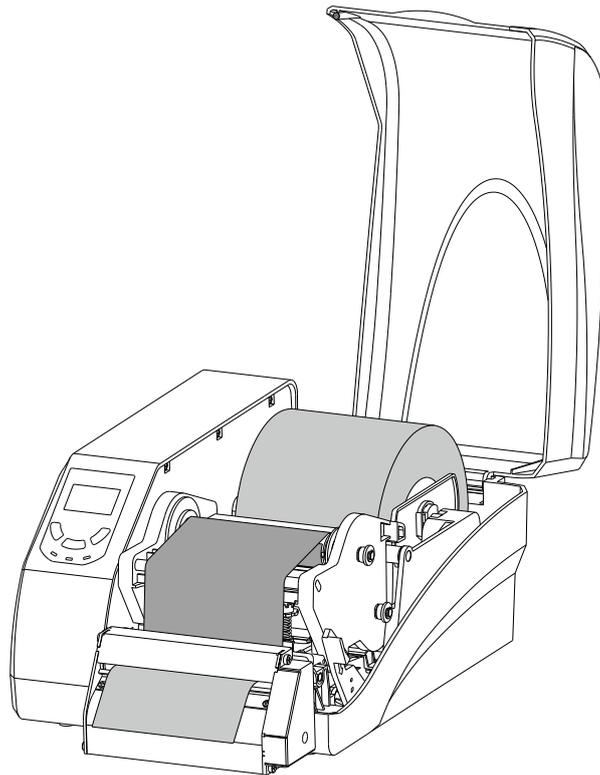

Figure 3-2 Cutter Mode
6. Turn off the printer. Load the ribbon and media in the order as shown above. Thread the media through the opening on the cutter as shown in Figure 3-2.